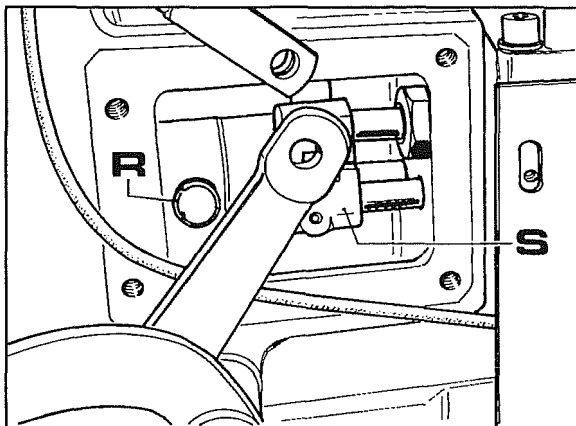

Fig. 8
- 2 Slip out sleeve **S** and remove thrust bearing spring **R** shown in Fig. 8. Remove the spring from the opposite side.